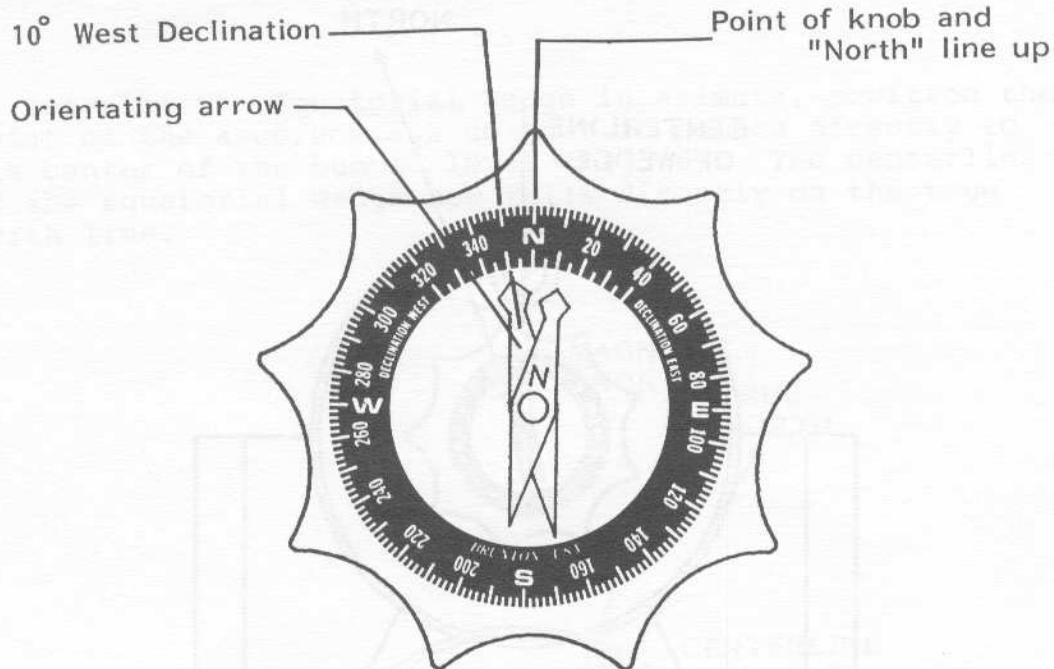

Fig. 3
3. With the right hand, rotate the outer dial until the orienting arrow (the black arrow painted on inside clear surface) is lined up with the desired Magnetic Declination angle on the declination scale. Notice that East Magnetic Declination is to the right of the "North" position and West Magnetic Declination is left of the "North" position. As an example, Fig. 3 shows the correct setting for 10 degrees west declination, which covers Buffalo, NY, or Philadelphia, PA.
2. Snap the Magnetic Compass into the 3" diameter wedge attachment knob (after setting the Magnetic Declination as described above). Position the compass into the knob so that the 360 degree location on the direction scale (the "North" position) lines up with one of the nine points of the knob. (See Fig. 3.) Press the compass firmly into the knob.